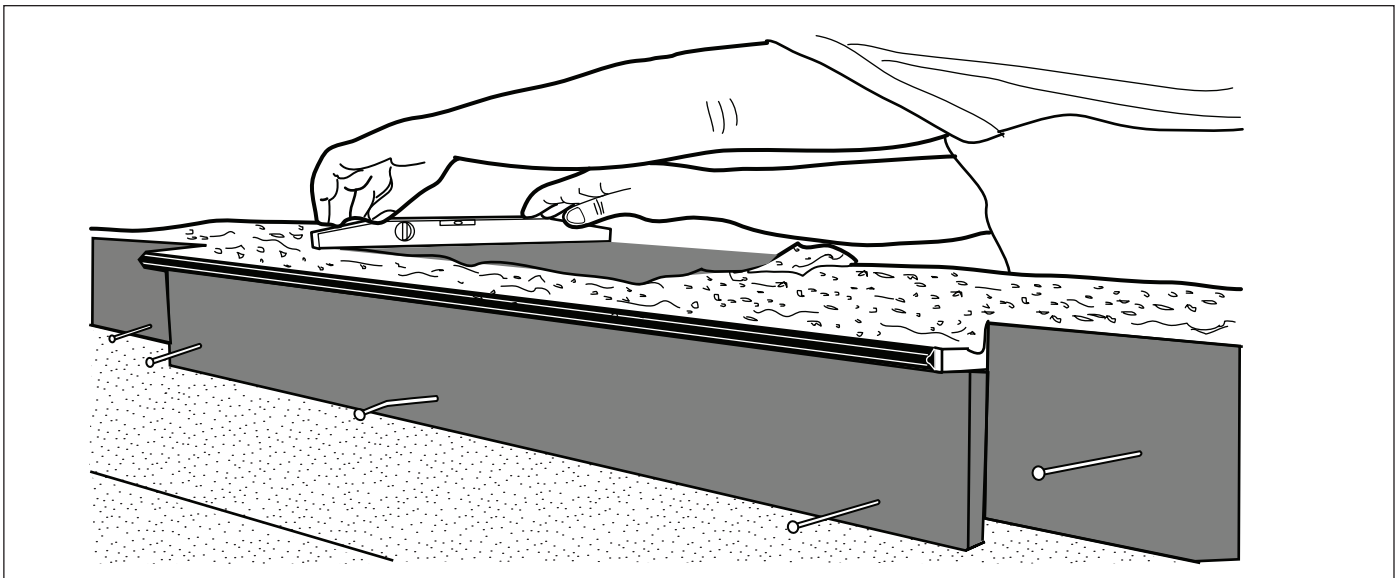

Figure 8. Slope Surface Towards Back of Waterfall
4. Apply 5/8 inches (1.6 cm) of cement finishing to top, sides and back of waterfall to encase unit. Slope top surface slightly towards back, 1/4 bubble on level. Refer to Figure 8.